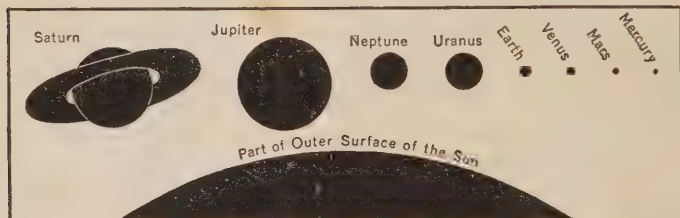

FIGURE 222. — OUR SUN AND ITS PLANETS.
center of the solar system, (3) the velocity of their motion through space, and (4) the length of their orbits (their path about the sun). Each one has (5) a different length of year and (6) of day, (7) different kinds of seasons, (8) a different climate, and (9) a different temperature. Can you explain this? Study the planets named in Figure 222 in the order of their distance from the sun.